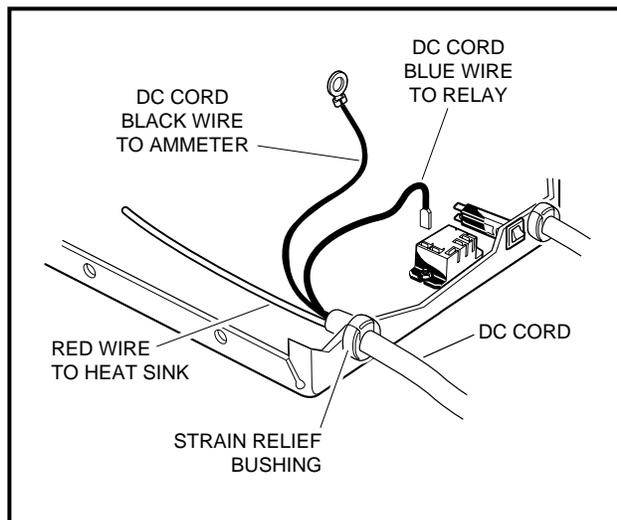

Figure 14-19 DC Cord
2. To check the continuity of the DC cord, disconnect the black wire of the DC cord from the ammeter (**Figure 14-19, Page 14-19**).
3. Disconnect the red wire of the DC cord from the heat sink assembly (**Figure 14-19, Page 14-19**).
4. Disconnect the blue wire from the relay (**Figure 14-19, Page 14-19**).
5. Place the clip of the continuity tester on the red wire of the DC cord (**Figure 14-19, Page 14-19**).
9. Move the continuity tester clip to the black wire of the DC cord (**Figure 14-19, Page 14-19**).
12. Move continuity tester clip to blue wire of DC cord (**Figure 14-19, Page 14-19**). Check for continuity at middle pin. Tester should register continuity. If tester does not register continuity, replace DC cord.
5. Remove the terminal on the blue charger DC cord lead at the relay (**Figure 14-19, Page 14-19**).
6. Using pliers, squeeze the strain relief bushing and remove the cord set (**Figure 14-19, Page 14-19**).
2. Attach the red lead of the new cord to the center terminal of the heat sink and tighten the nut to 14 in.lb (1.5 N-m) (**Figure 14-19, Page 14-19**).
3. Attach the blue lead of the new cord set to the charger relay (coil) terminal (**Figure 14-19, Page 14-19**).